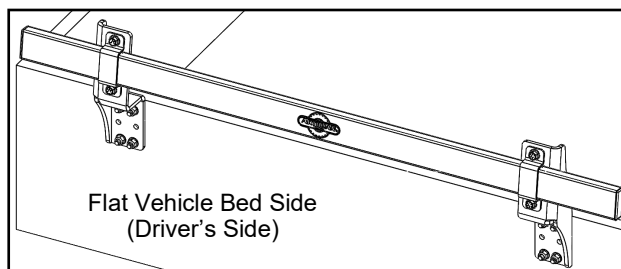

Fig. 6
6. C-Clamp the mounting brackets in the desired location and install the tool bar onto the brackets. See Fig. 6